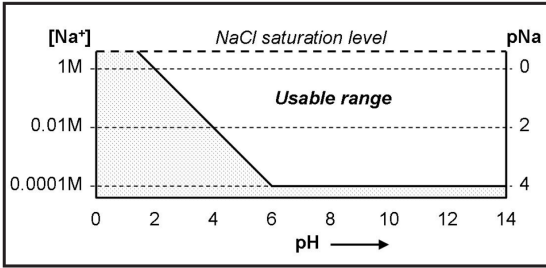

Fig.2. Application range for the SM23 as a reference electrode in pH measurement
**Note:** It is important to remember that the Sodium sensor has a sensitivity to H+ ions. The usable range (ref. Figure 2) indicates the area where the influence of H+ on the output of the SM23 is neglectable. Also a minimal Na+ concentration of 0.0001M is required to guarantee a fast response of the SM23.